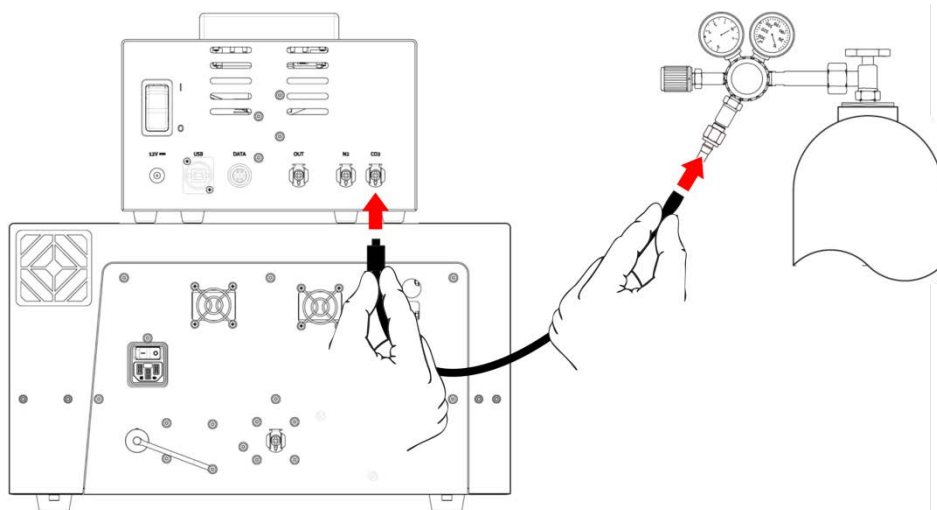

Figure 26
2. Connect the pressure regulator's outlet of the CO2 gas cylinder or laboratory gas handling system to the gas control module's inlet port ('CO2') on the back. Use the provided long tube with quick connector and attach the tube to the regulator of the cylinder with a plastic clamp, as depicted in Figure 26, below.